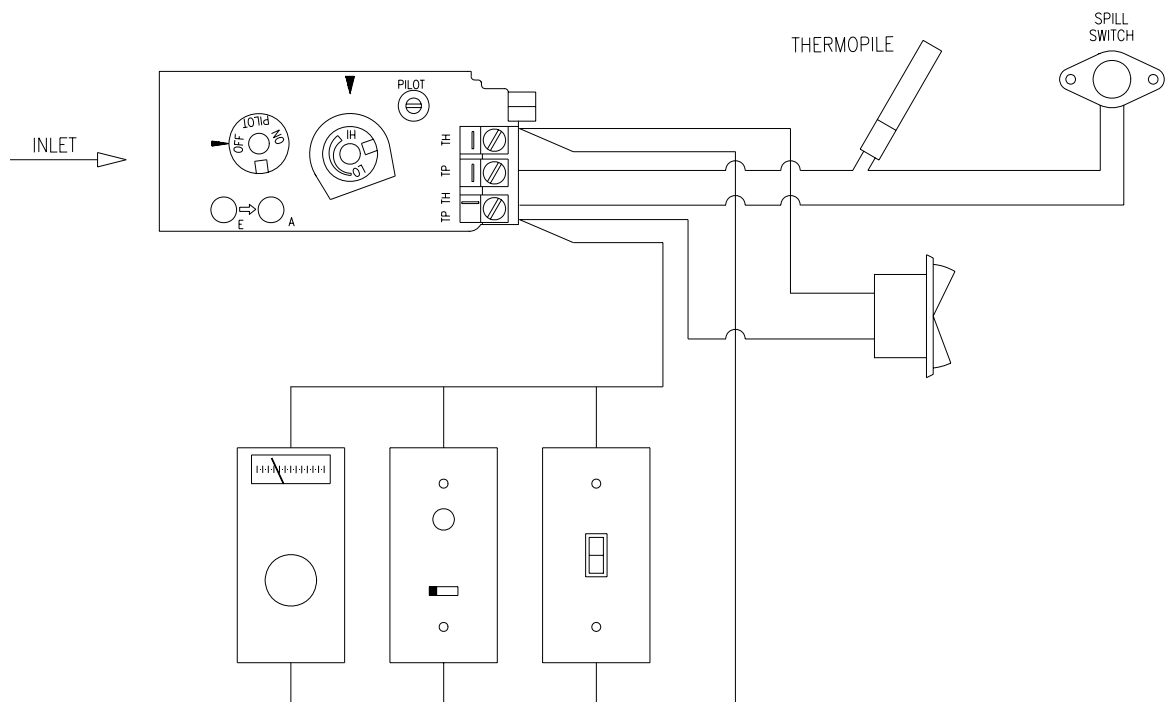

Figure 11
- 4) This switch may be connected in parallel with a thermostat, wall switch, or remote control (see Figure 11).